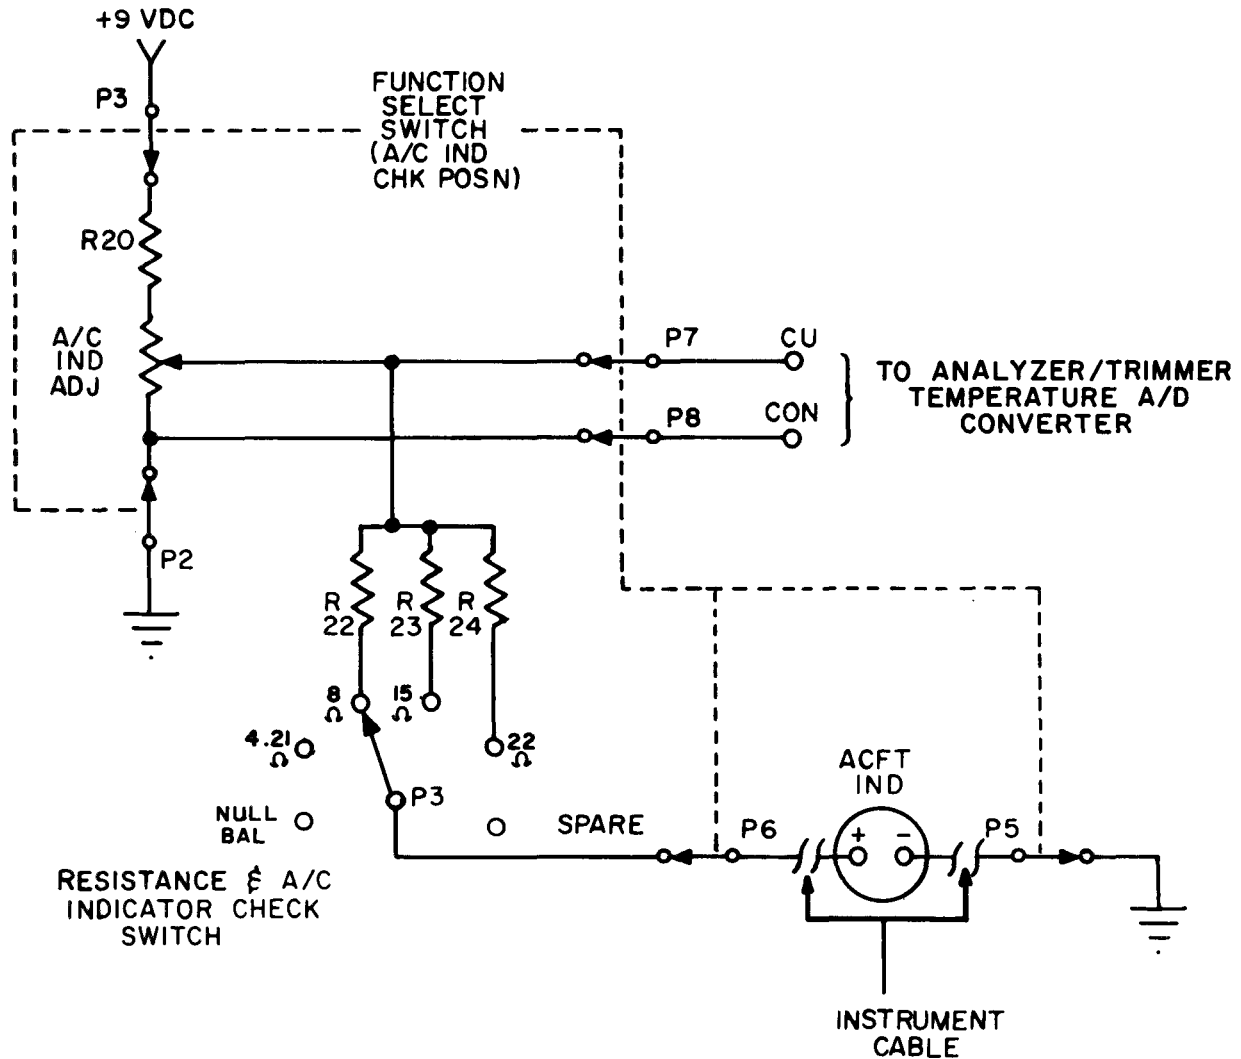
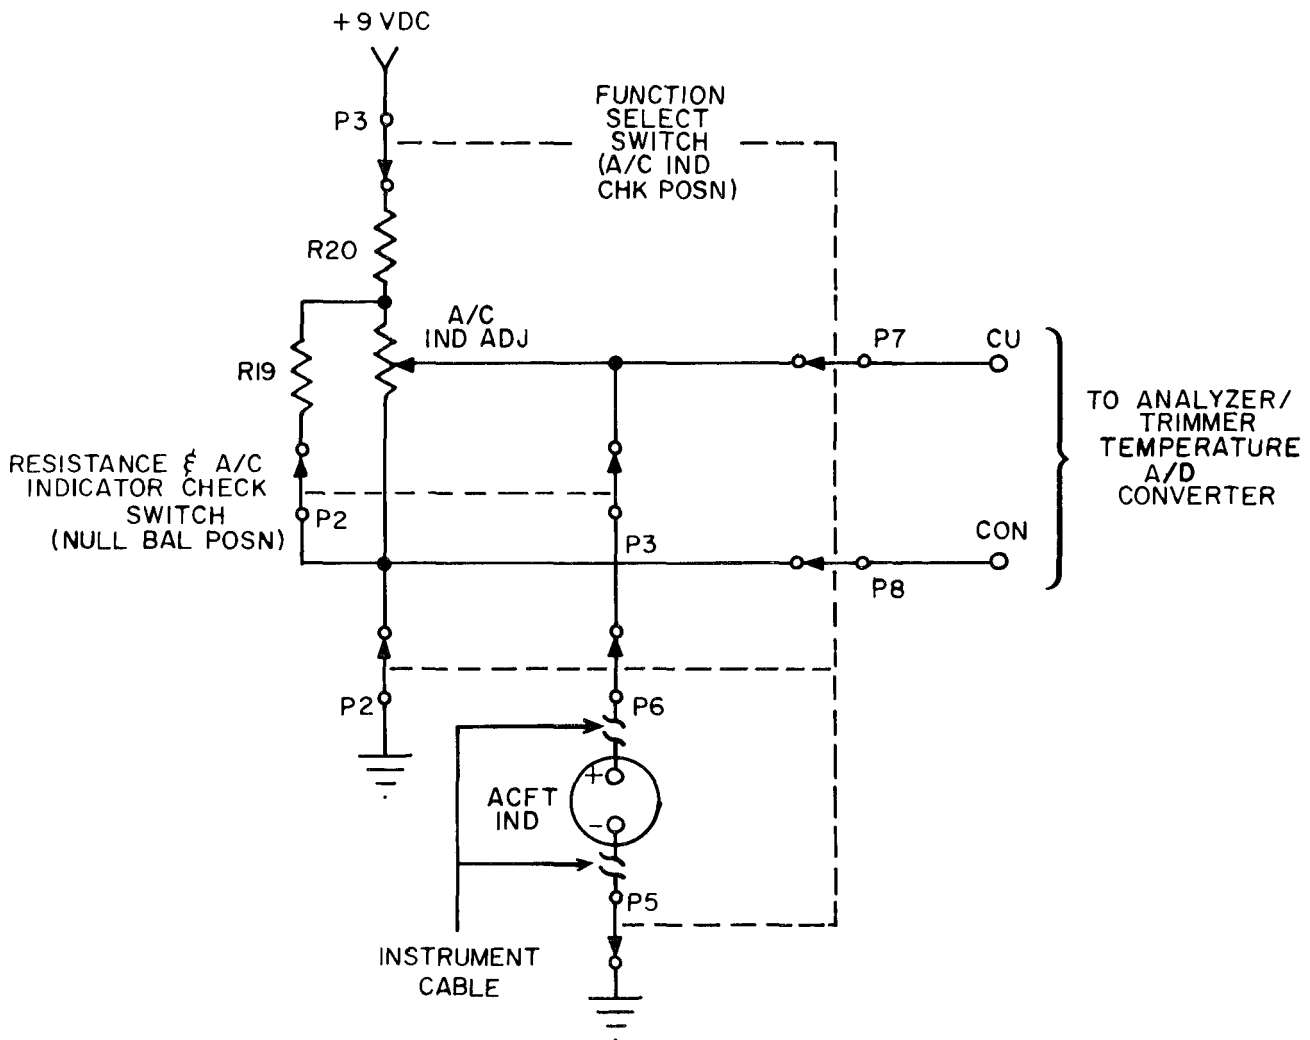
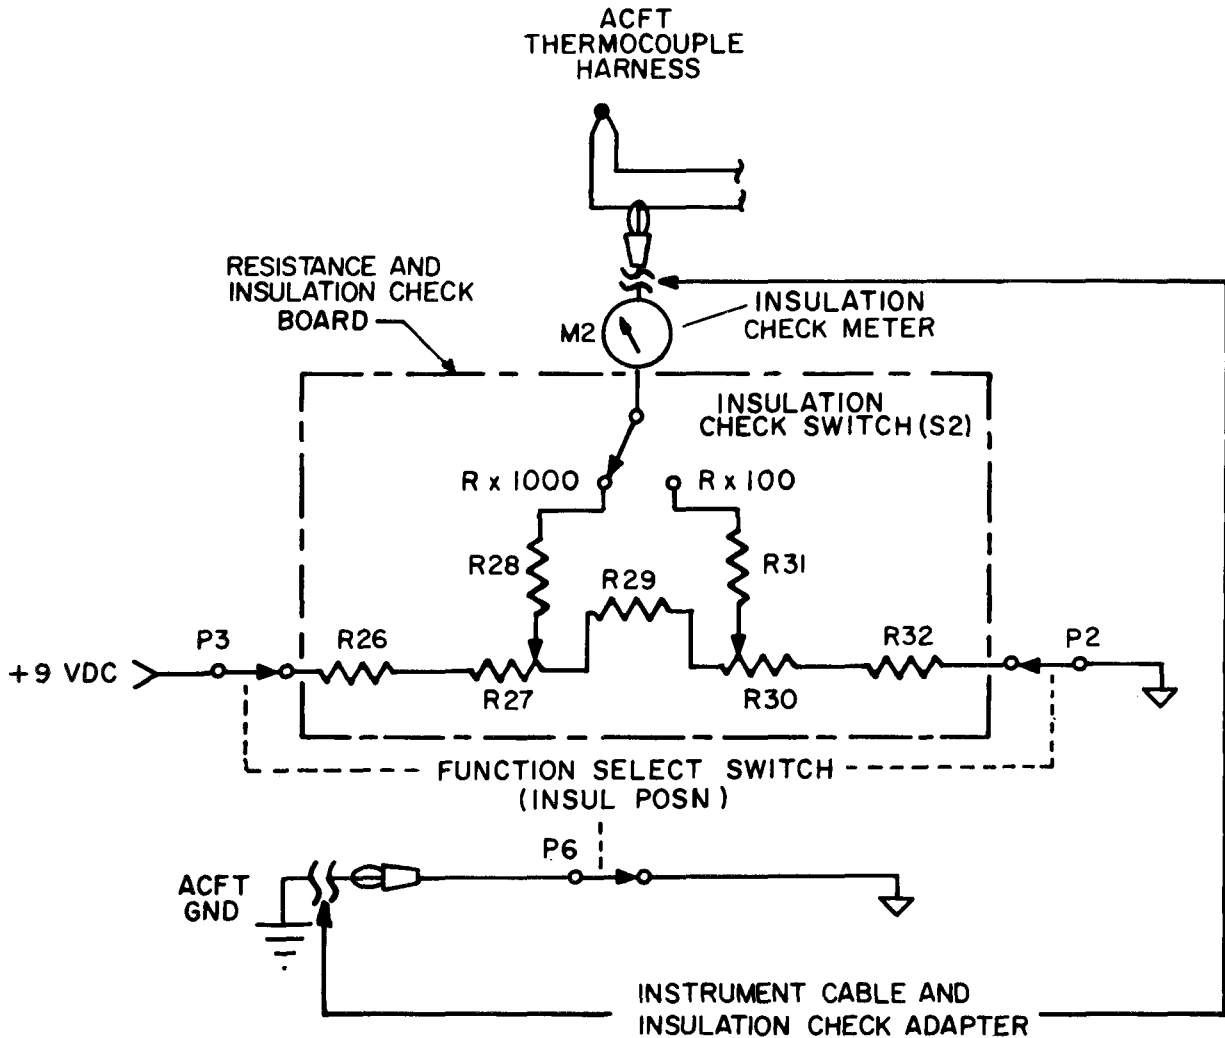

Figure 1-18. Aircraft Indicator Check Circuit for D'Arsonval Indicators.
Figure 1-19. Aircraft Indicator Check Circuit for Null-Balance Indicators.
Figure 1-23. Insulation Check Circuit (Simplified Schematic)
(a) *Aircraft Indicator Check Circuits.* The aircraft indicator check circuits (figs. 1-18 and 1-19), located in the probe control section of the analyzer/trimmer, supply calibration check signals to the TEMP indicator and to the aircraft indicator simultaneously. Switch poles are identified in these figures and poles of the same switch are joined with broken lines. When checking a
D'Arsonval type indicator, the appropriate resistance (R21-R25, fig. 1-18) is selected with the RESISTANCE & A/C INDICATOR CHECK switch. Since null-balance indicators do not draw current when they are balanced, R19 in figure 1-19 assures that the A/C IND ADJ has approximately the same range as it does in the circuit of fig. 1-18.
(8) Insulation Check Circuit. This circuit (fig. 1-23), located in the probe controller, measures the insulation resistance between the aircraft thermocouple harness and aircraft ground. The INSULATION CHECK meter is the ohmmeter of a calibrated ohmmeter circuit having two ranges, RX100 and RX1000. The circuit is powered by 9 vdc from a supply on the probe control and function switch
(e) Nine VDC Supply. This supply is located on the probe control and function switch board. It is powered by one-half of a 37 vac winding which is half-wave rectified by CR12 and filtered by C11. CR13 regulates the dc voltage to 18 vdc and CR14 regulates it to 9 vdc. The 9 vdc is switched by the FUNCTION SELECT switch to power the aircraft indicator check circuit (figs. 1-18 and 1-19), the PROBE CONTROL and probe control compensator (MOD-1, fig. FO-1), and the insulation check circuit (fig. 1-23).